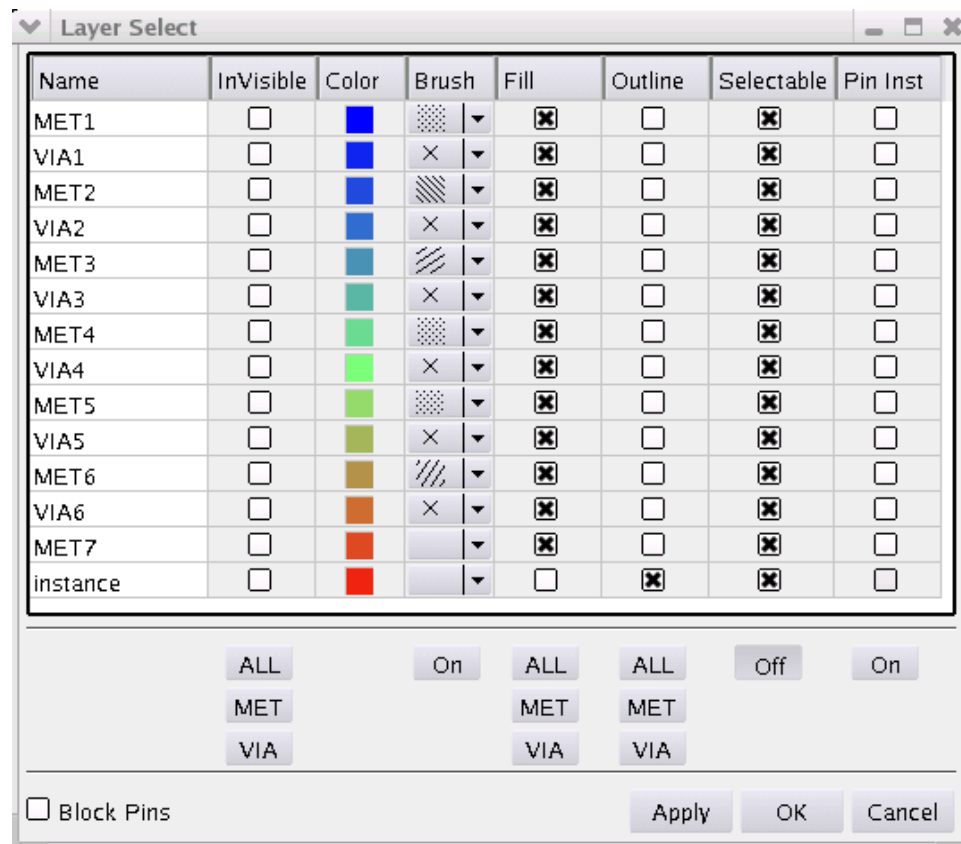

Figure D-6 Layer selection and object display dialog
To display the properties of objects in a design you can left button click on them in the layout view (**SA** button). The object selected is highlighted, and its properties are shown in the log display area. Note that the objects desired must have their display properties turned on, such as instances, pins or vias, and the appropriate layer must be displayed (see the Layer dialog description and Figure D-6).
- “View Layers” (left button in the row) - displays the ‘Layers’ dialog box, as shown in Figure D-6, to allow modifying the display of objects on metal and via layers in the design, as well as pin instances. For each layer in the design you can choose whether to display its objects or not (**Invisible** button), change their display color (**Color** column), choose whether to display the objects in solid colors (**Fill** button) or in **Outline**. In locations in which there are objects on many layers at the same point, you can easily select an object on a lower layer by making only its layer selectable with the **Selectable** button. Using the **Pin inst** display buttons allow pins to be displayed by layer, independent of other objects. Because there are so many pins, pin instance display is Off by default to avoid interfering with the display of other objects. Zoom in to the instance before turning on pin display, in order to easily find the desired pin. For designs with more than one via model per layer, each via model is listed and can be displayed separately using the dialog. Buttons at the bottom of several selection columns allows **Net** or **Via** layers to be turned off and on as a group. Block pins also can be independently turned off and on using the **Show Block Pins** button at the bottom of the dialog.